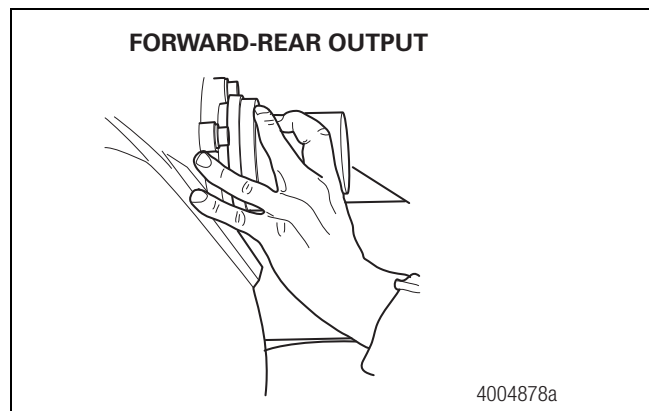

Figure 5.104
7. Install the forward-rear axle output seal. Hold the sleeve and seal only on the outer diameter. Position the seal onto the seal driver and align it with the forward-rear axle output shaft. Do not touch the lips in the inner diameter of the seal. Use a dead-blow hammer and the appropriate driver to install the seal onto the output shaft. Figure 5.104.